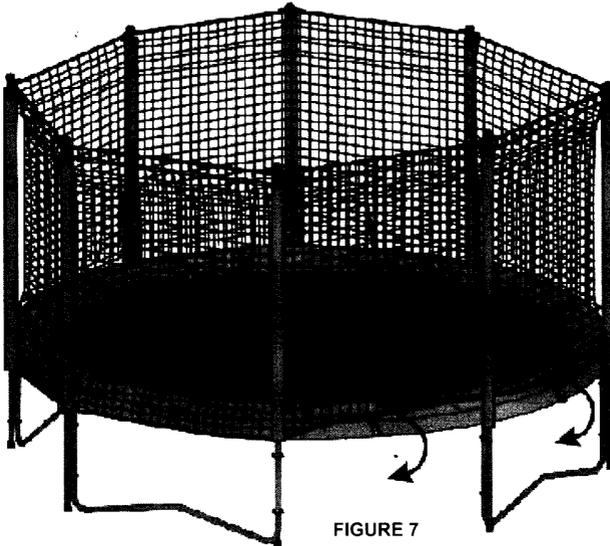

FIGURE 7
STEP 6: WHEN YOU SET UP AS SAME AS FIGURE 7. YOU NEED MORE FORCE TO PULL DOWN THE NET (MAYBE NEED TO TWO ADULTS HELP), SO THE NET WILL BE VERY TIGHT FOR TRAMPOLINE.